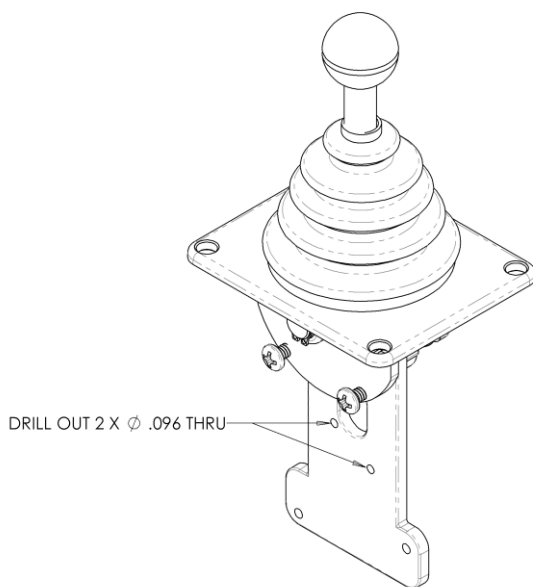

Figure 24: Diagram showing holes to be drilled out for new microswitch bracket
4. Refer to Figure 24, drill out the two threaded holes that were used to secure the old microswitches with a No.41(.096") or 3/32(0.0937") drill bit.